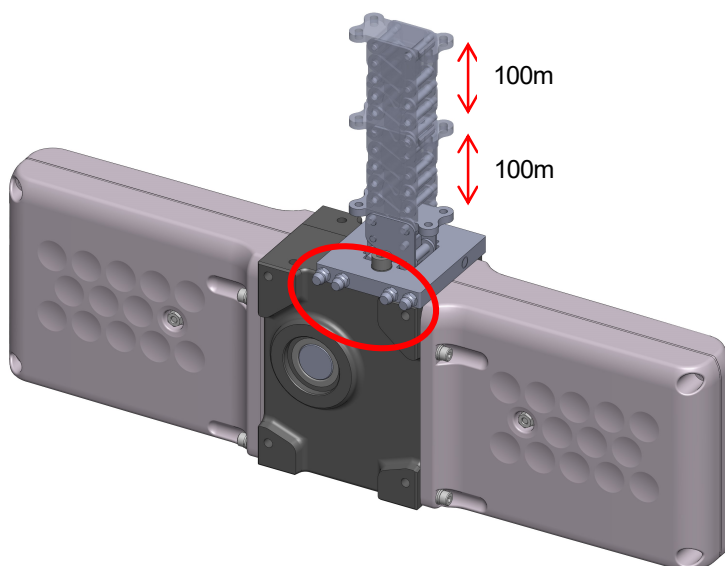

Fig. 28 Greasing method using grease nipples (figure above shows ZCA35)
2. Greasing steps (See Fig. 28)